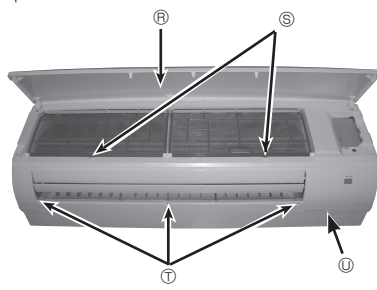

Fig. 6-2
- ① Press and unlock the knobs on both sides of the front grille and lift the front grille until it is level. Pull the hinges forward to remove the front grille. (Fig. 6-2)
- ② Remove 3 screw caps of the panel. Remove 5 screws. (Fig. 6-2)
- ⑦ Remove the screw of the corner box. (Fig. 6-2)